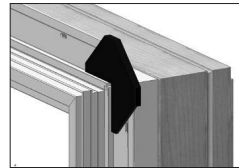

FIG. 7a
- a. Apply the adhesive side of the pad to the outside of the nailfin corners and fold over the nailing fin. (Fig. 7a)